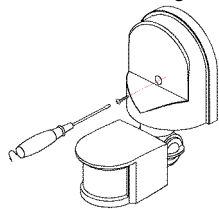

Figure1
- Screw off the nail on the front cover and unload the front cover. (refer to figure1).